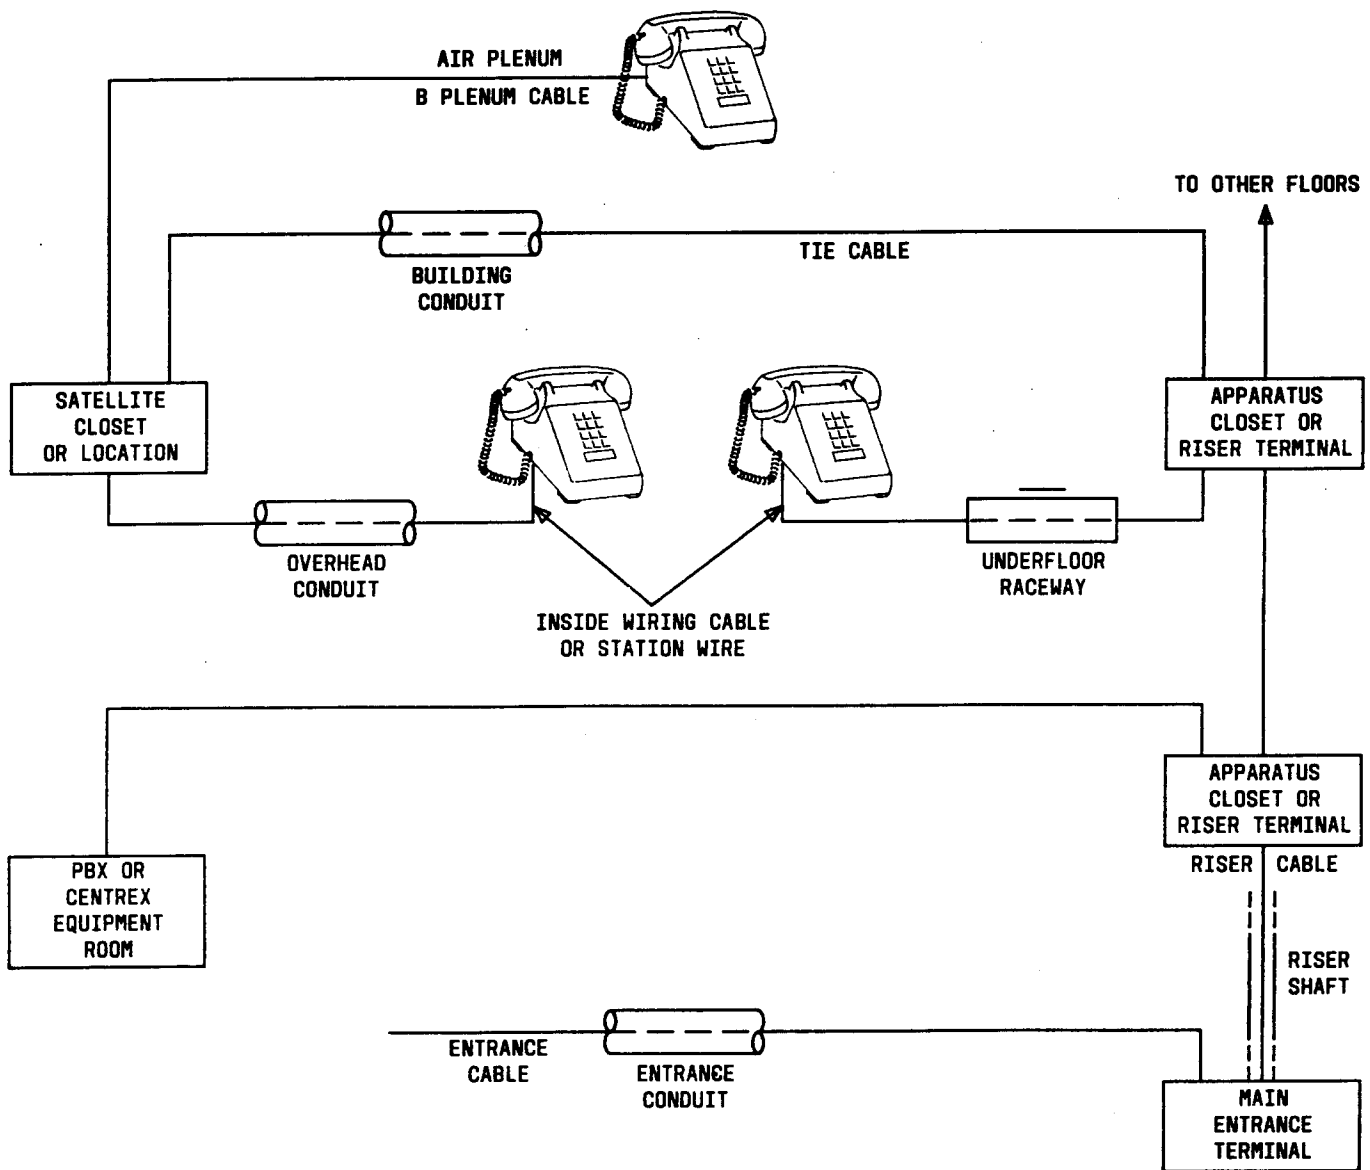

Fig. 6—Typical Building Cable System
2.08 Applications. B Plenum Cable is for use in business premises wiring to extend circuits from either equipment or satellite closets to telephone sets or other terminal equipment. It may be used for extending circuits between the Building Entrance Facility and a PBX (Fig. 6). The B Plenum Cable may also be used for computer cabling applications. During installation the cable can be placed directly in air plenums without the need for a conduit. The aluminum component of the sheath serves primarily as a reflective heat shield and in addition provides shielding against electromagnetic interference and can serve as a couple bonding conductor.